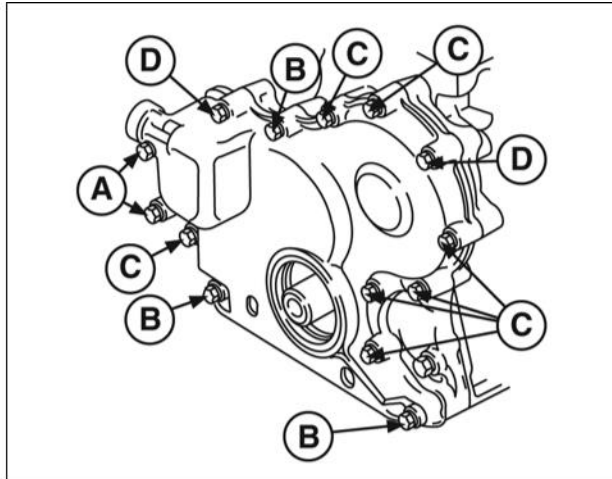

Figure 17
13. Note position, length, and number of screws (Figure 17).
- M6 x 2.5 in. (M6 x 65 mm): 2 (A).
- M6 x 2.1 in. (M6 x 55 mm): 3 (B).
- M6 x 1.1 in. (M6 x 30 mm): 7 (C).
- M6 Nuts: 2 (D).